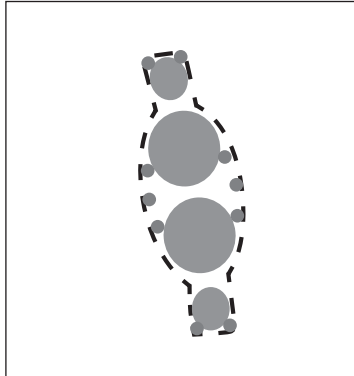

Figure 6
1. Use a combination of cut-off wheel, air saw, or die grinder with carbide bit to cut the straight and elliptical portions of the antenna hole (Fig. 6).